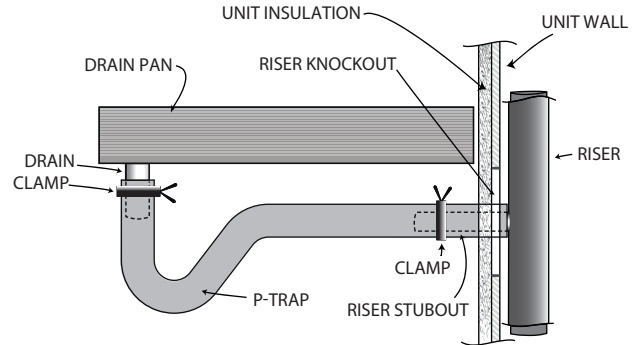

Fig. 23 — 42SU Unit Riser to Drain Installation
- Locate the p-trap drain and rubber hose factory installed to the drain pan connection in the bottom of the unit as shown in Fig. 23.
- Adjust the hose clamp over the riser stubout and rubber hose to hold in place as shown in Fig. 23.